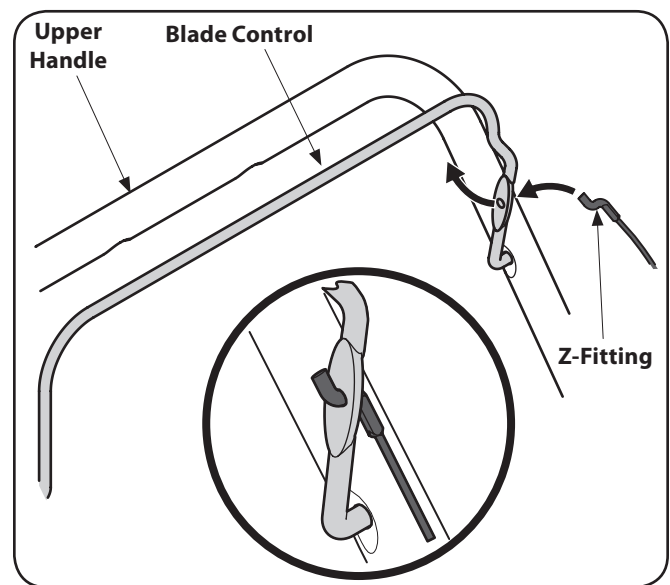

Figure 3-2
1. Hook the Z end of the brake cable into the control from the outside to inside. See Figure 3-2.